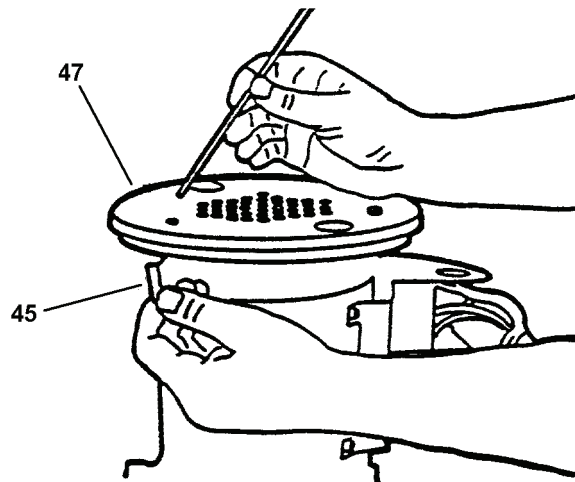

Figure 3-4. Cover Removal.
- f. Remove motor bolts (46). Remove cover (47, Figure 3-4) and spacers (45).